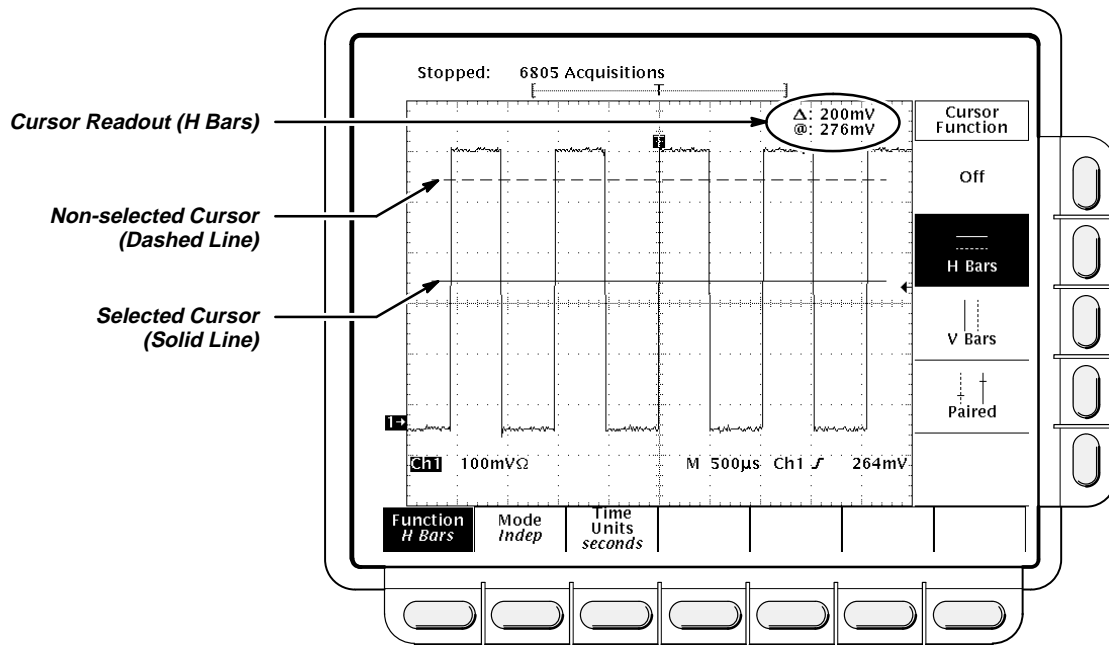

Figure 3-6: H Bars Cursor Menu and Readouts
- **H Bars:** the value after the  $\Delta$  shows the voltage difference between the cursors. The value after the @ shows the voltage of the selected cursor relative to ground (see Figure 3-6).
To take cursor measurements, press **CURSOR** to display the Cursor menu (Figure 3-6).